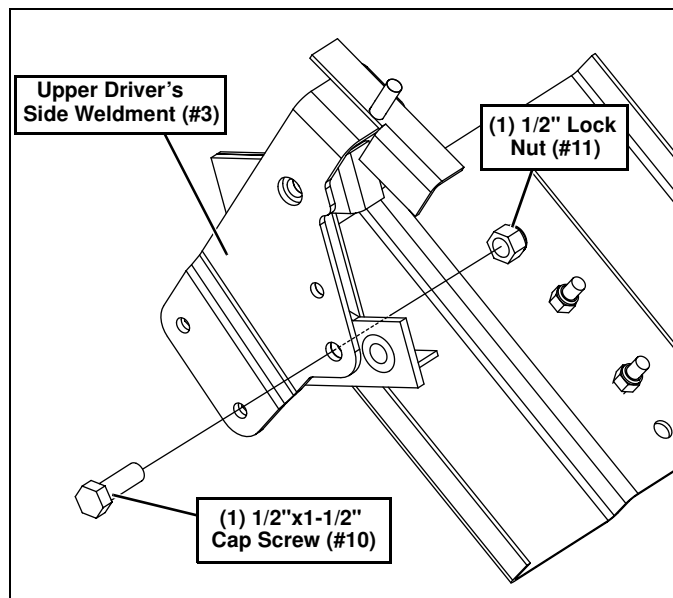

Figure 6
- Insert (1) 1/2"-13x1-1/2" Cap Screw (#10) into the lower side hole (pivot) of the Upper Driver's Side Weldment (#3) and secure with (1) 1/2"-13 Lock Nut (#11). (See Figure 6.)
15. Insert (1) 1/2"-13 x 1-1/2" Cap Screw (#10) into the lower side hole (pivot) of the Upper Driver's Side Weldment (#3) and secure with (1) 1/2"-13 Lock Nut (#11). (See Figure 6.)